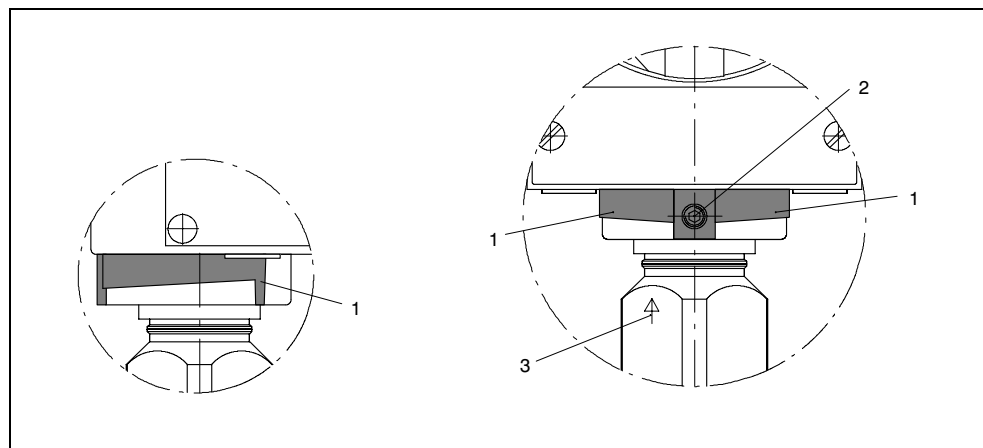

Figure 28 Range of rotation of the measuring cell (in pressure and absolute pressure transmitters of the pressure series)
Only limited rotation is permitted! The range of rotation (see (1) Figure 28) is marked at the base of the electronics housing, there is an orientation mark (3) on the neck of the measuring cell which must stay within the marked area when rotating.